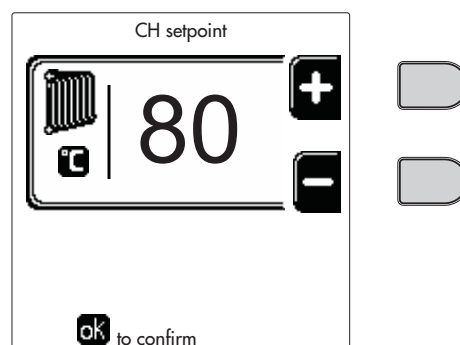
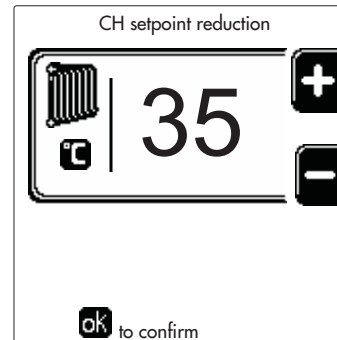
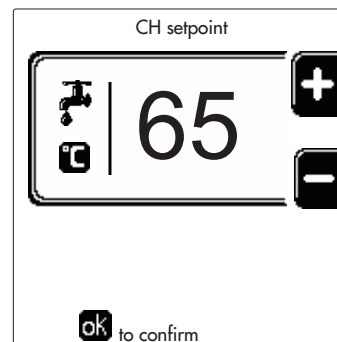
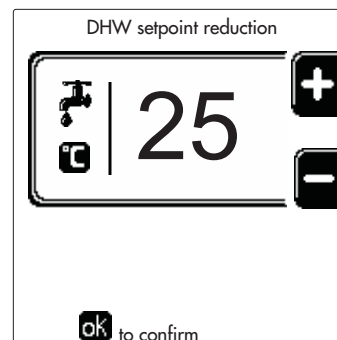

fig. 14
fig. 15
fig. 16
fig. 17
- **ON**. In case of a Heating/DHW request, the boiler works at the set Heating/DHW Adjustment Temperature (fig. 14/fig. 16).
- **re**. In case of a Heating/DHW request, the boiler works at the Reduced Adjustment Temperature. The Reduced temperature is obtained by subtracting the Reduction Adjustment Temperature (fig. 15/fig. 17) value from the set Heating/DHW Adjustment Temperature (fig. 14/fig. 16).